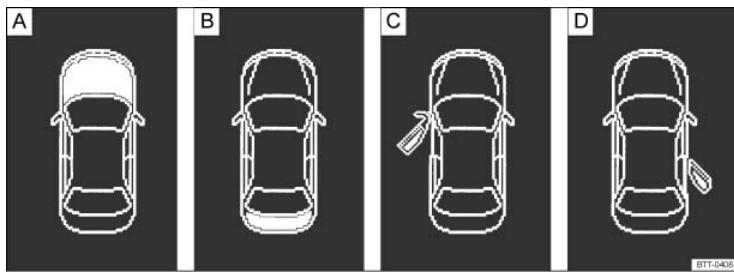

Fig. 10 In the instrument cluster display: **A: Open engine hood, B: Open trunk lid, C: Open front driver side door, D: Open rear passenger side door.**
- Open doors, engine hood, or trunk lid ⇒ Fig. 10
Key to ⇒ Fig. 10 :